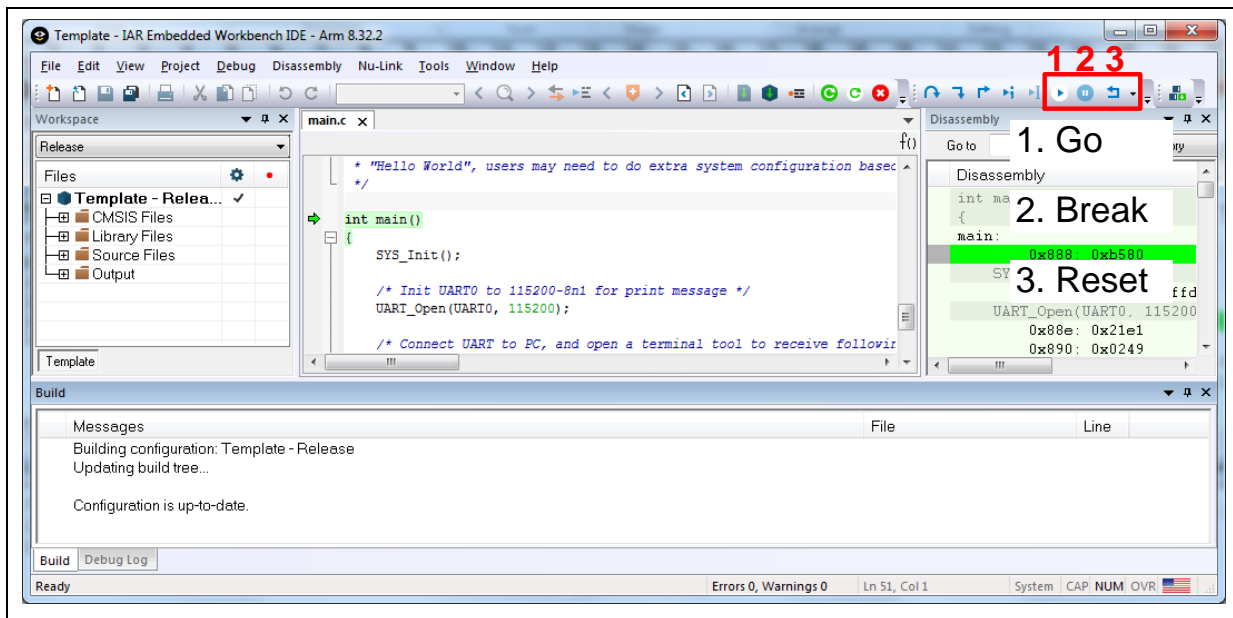
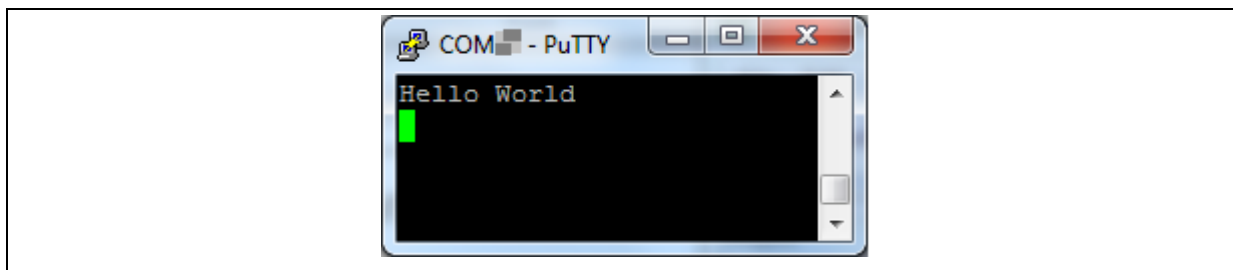

Figure 3-17 IAR EWARM Debug Mode
Figure 3-18 Debug Message on Serial Port Terminal Windows
- 4. Figure 3-17 shows the debug mode under IAR EWARM. Click “Go” and the debug message will be printed out as shown in Figure 3-18. User can debug the project under debug mode by checking source code, assembly language, peripherals’ registers, and setting breakpoint, step run, value monitor, etc.